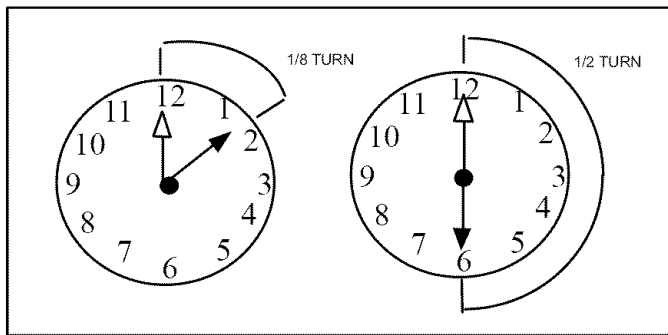

Figure 25. Tightening Distance
3. Attach the stubbed end of the TXV to the liquid line orifice housing. Finger tighten and use an appropriately sized wrench to turn an additional 1/2 turn clockwise as illustrated in figure 25, or 20 ft-lb.
5. Attach the liquid line assembly to the TXV. Finger tighten and use an appropriately sized wrench to turn an additional 1/2 turn clockwise as illustrated in figure 25, or 20 ft-lb.
8. Connect the equalizer line from the TXV to the equalizer suction port on the suction line. Finger tighten the flare nut plus 1/8 turn (7 ft-lbs) as illustrated in figure 25.